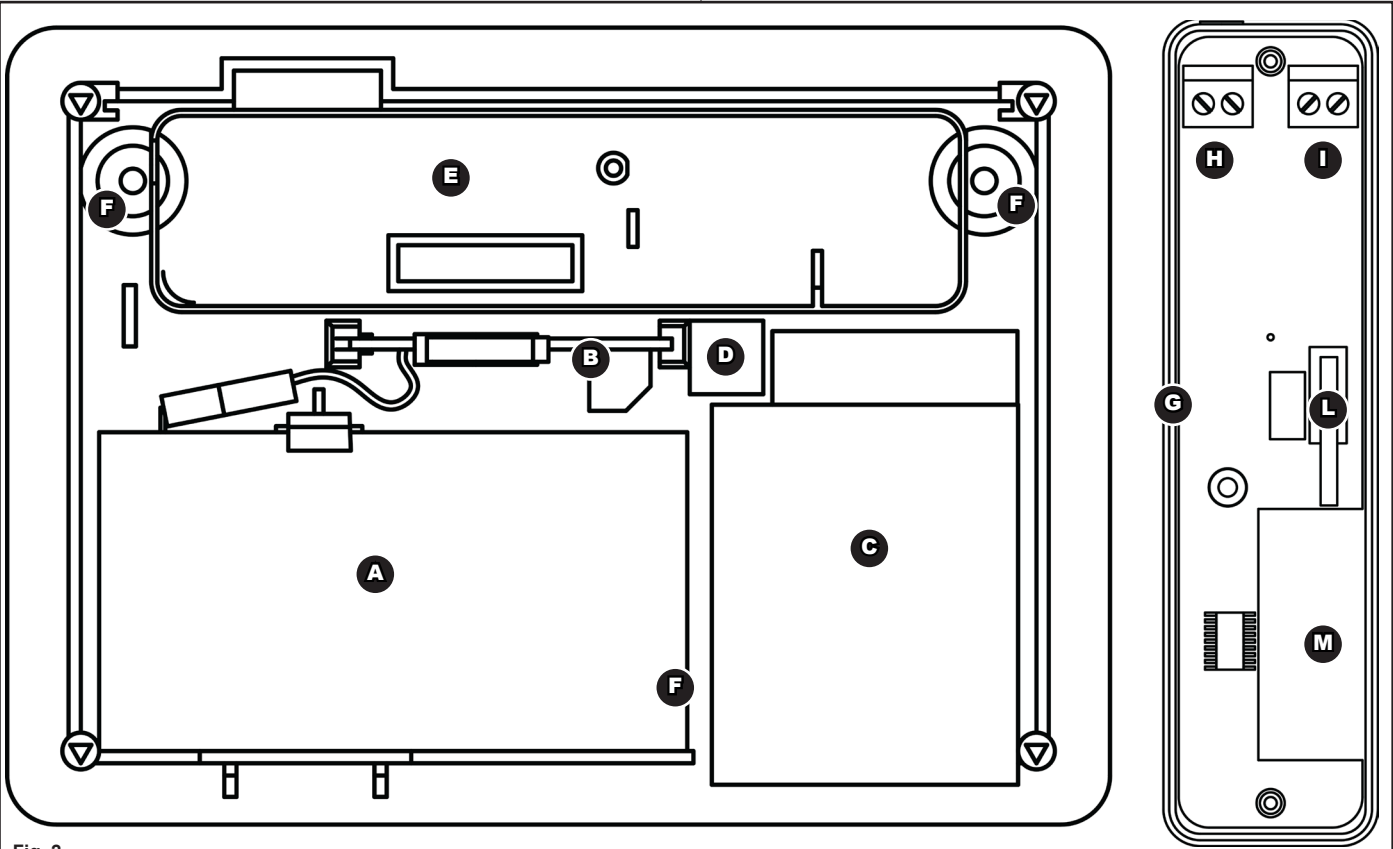

Fig. 2
- install the bottom using the fixing holes "f" (figure 2);